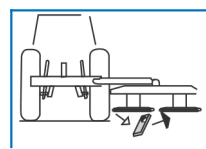

Figure 16
- The knife has cutting edges at both sides. Therefore it is possible as soon as one edge is blunt to take the knives and use it on the next drum (Figure 16).